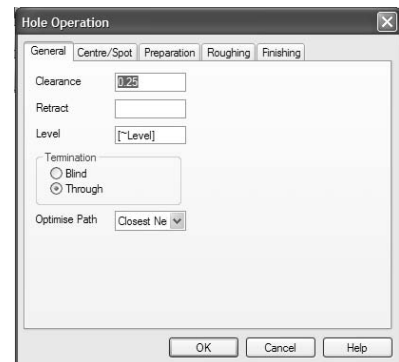

Figure 23 Hole Operation Dialog
- Use the mouse to select any one of the four counterbored holes (left click) and right click to accept the selection.** The Hole Operation dialog will be displayed as in Figure 23.